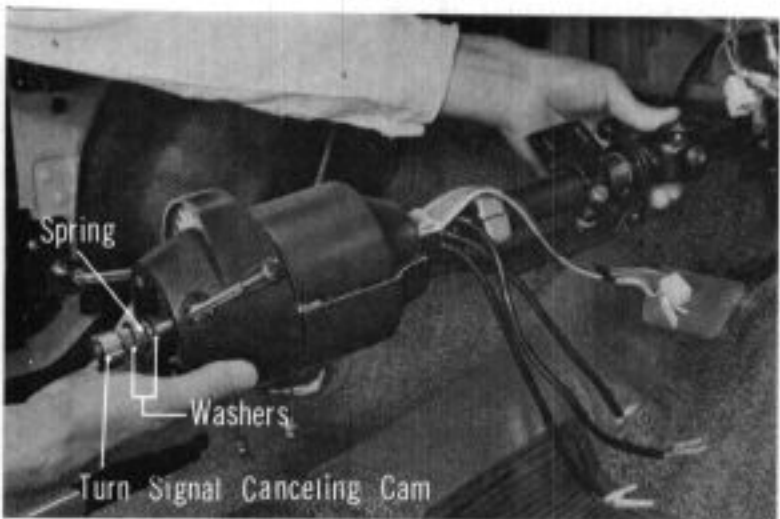

Fig. 7B-265
16. Install the steering column assy., to the steering column.(Fig. 7B-265)